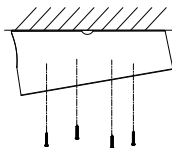

Figure 2-9 Fix the Inclined Base
2. Install the inclined base to the ceiling with supplied screws, as shown in Figure 2-9.